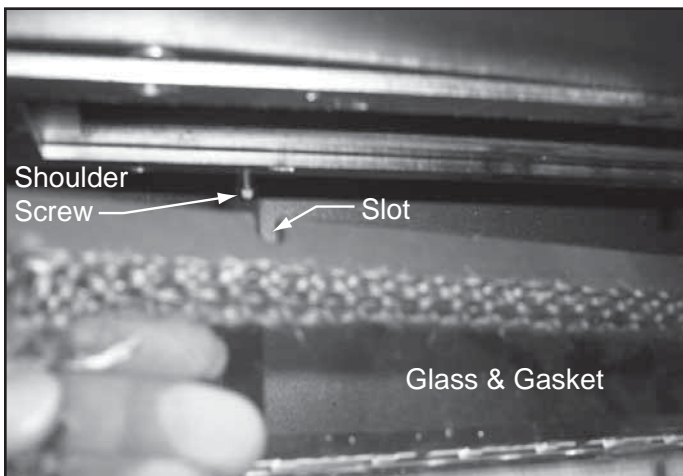

Figure 3.5 Reinstall Glass Frame
- Reinstall glass frame. The frame must be hooked on both shoulder screws on the firebox bottom. See Figure 3.5.